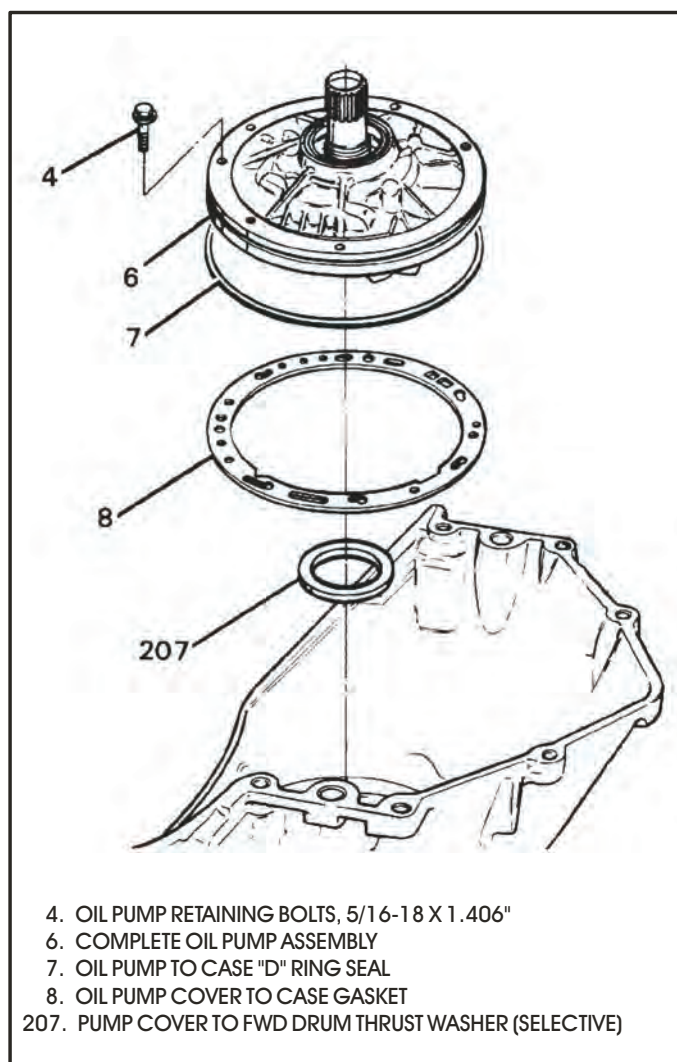

Figure 45
39. Rotate the transmission so that the oil pump is facing up, as shown in Figure 45.
40. Remove the oil pump retaining bolts as shown in Figure 45.
42. Remove the oil pump assembly from the case as shown in Figure 45.
43. Remove and discard the oil pump cover to case gasket, as shown in Figure 45.
44. Remove and discard the oil pump to case "D" ring seal (See Figure 45).
45. Remove the oil pump to forward drum thrust washer which is selective (See Figure 45).